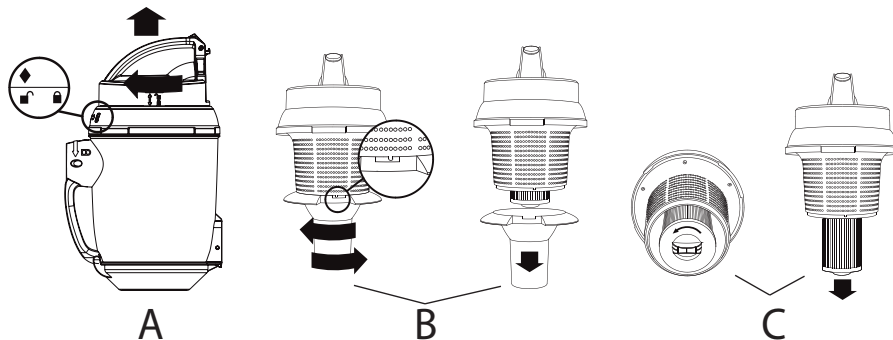

Figure 11
⚠ Please note: Do not lock the second filter (C) (see figure 11) to the dust receptacle. This happens automatically when you place back and lock the lid (A).